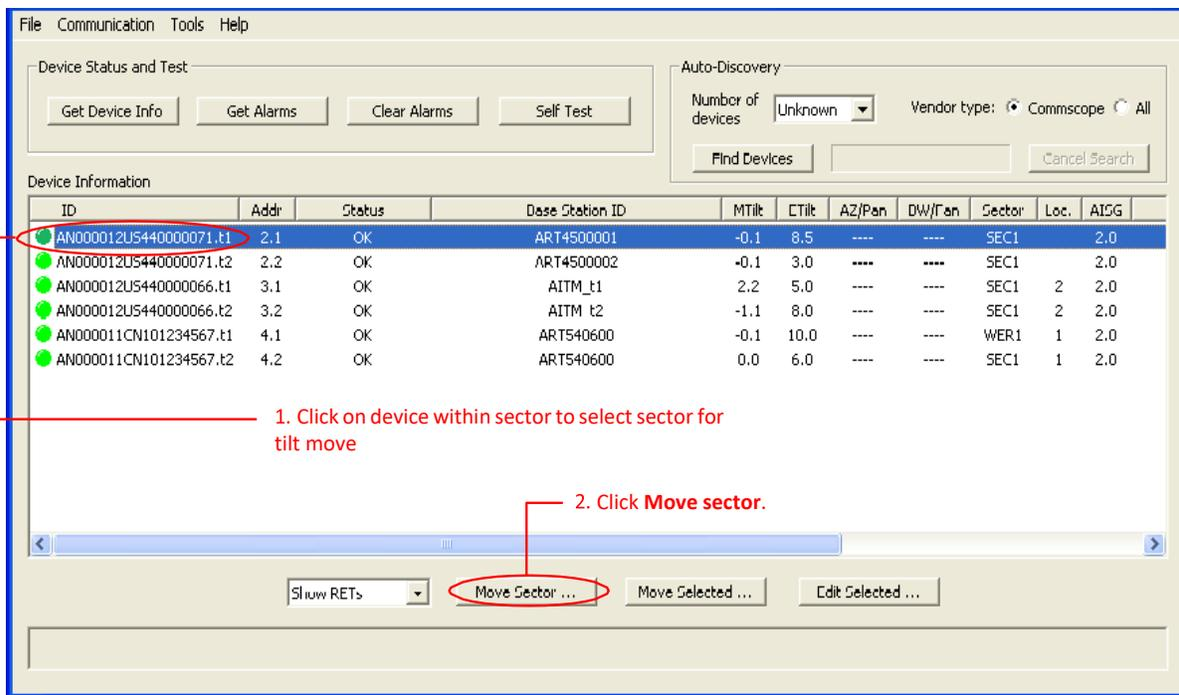

Figure 8-6. Selecting an Antenna Within a Sector.
2. Select a device from the **Device Information** list that contains the Sector ID and tilt range representing the group to be moved (Figure 8-6).
3. Click **Move Sector** (Figure 8-6)).